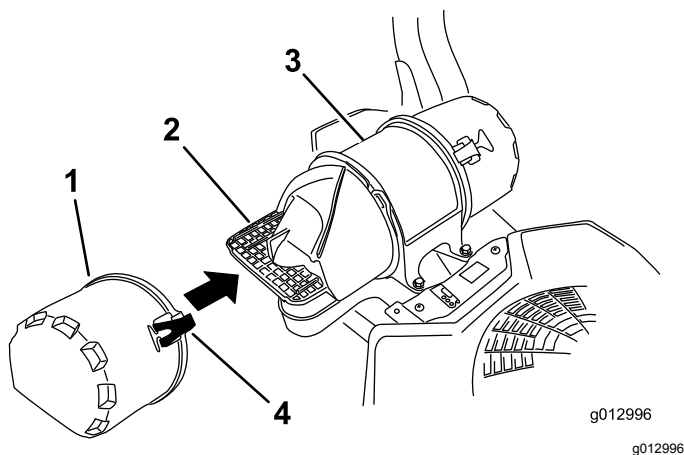

Figure 49
3. Release the latches on the air cleaner, and pull the air-inlet cover off the air-cleaner body (Figure 49).
5. Install the air-inlet cover and secure it with the latches (Figure 49).